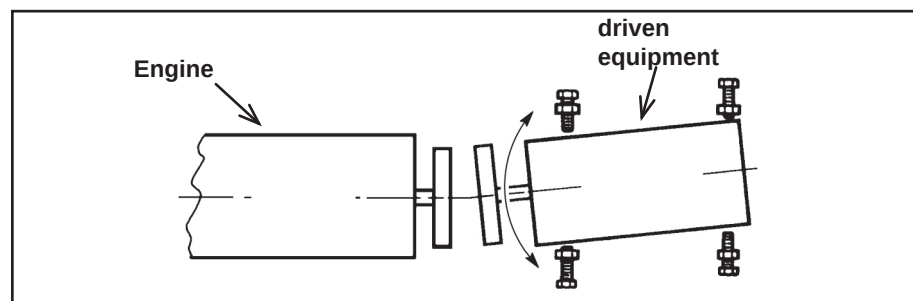

Figure 7-40: Slide free end
3. After shimming, loosen both mounts on one end and all center mounts. It may also be necessary to loosen one mount on the fixed end but do not loosen both. Slide the free end the amount calculated, then re-torque the bolts (see "Figure 7-40: Slide free end").